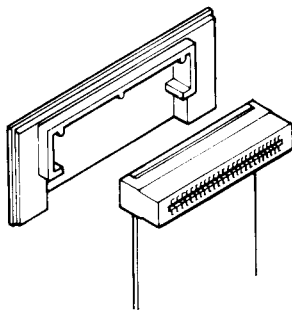

Figure 6. Place hood over connector with cable exiting from bottom of hood.
- 4. Attach a flat hood onto the other end of the cable, with the cable exiting from the bottom of the hood (Figure 6).